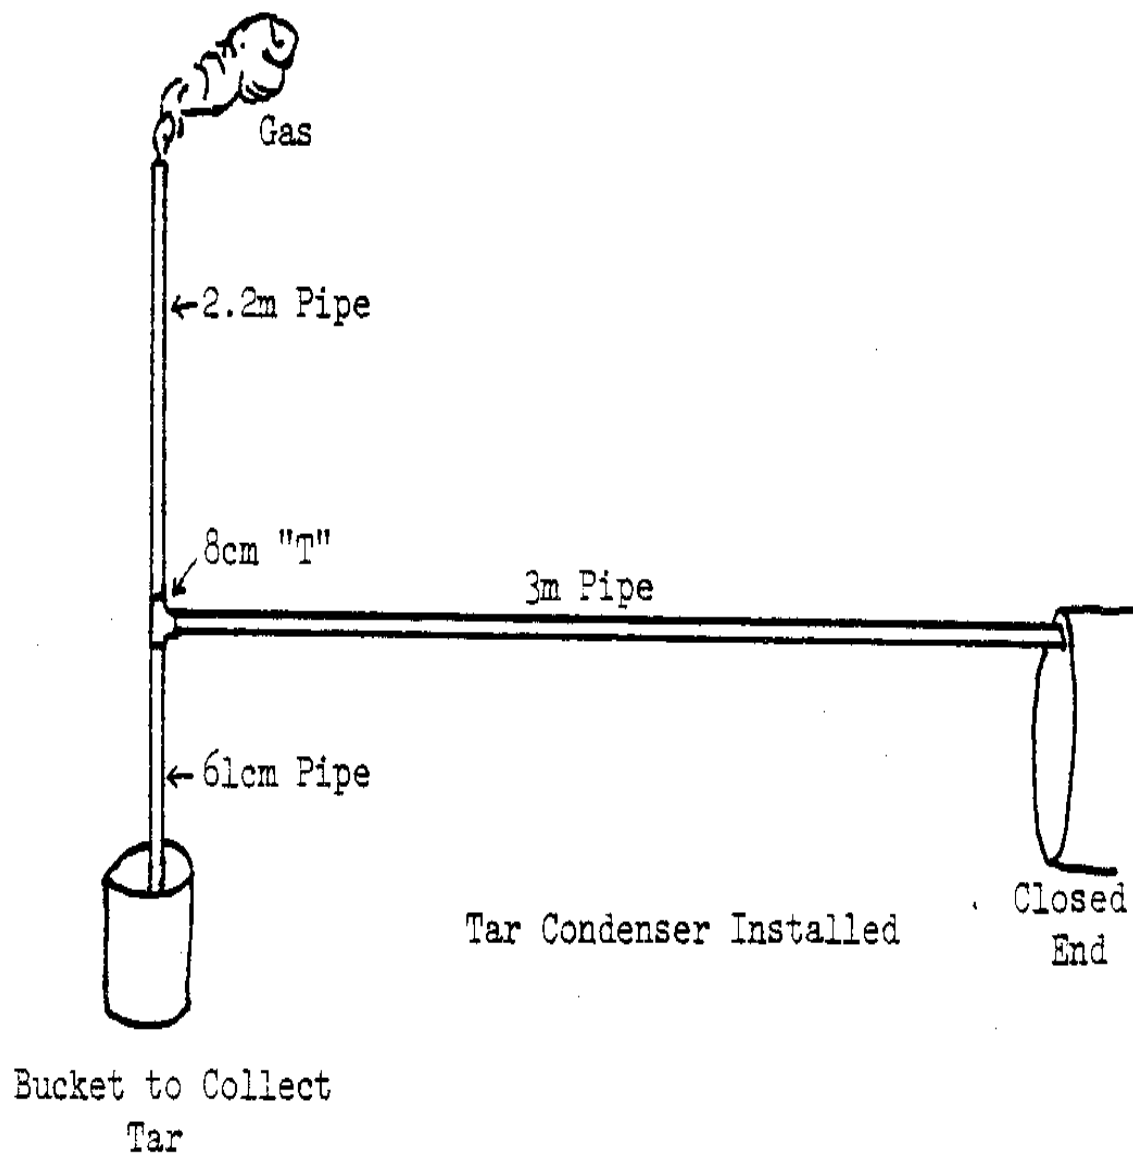

Figure 7
* Fit together the 8cm (3") galvanized iron pipe as shown in Figure 7. The